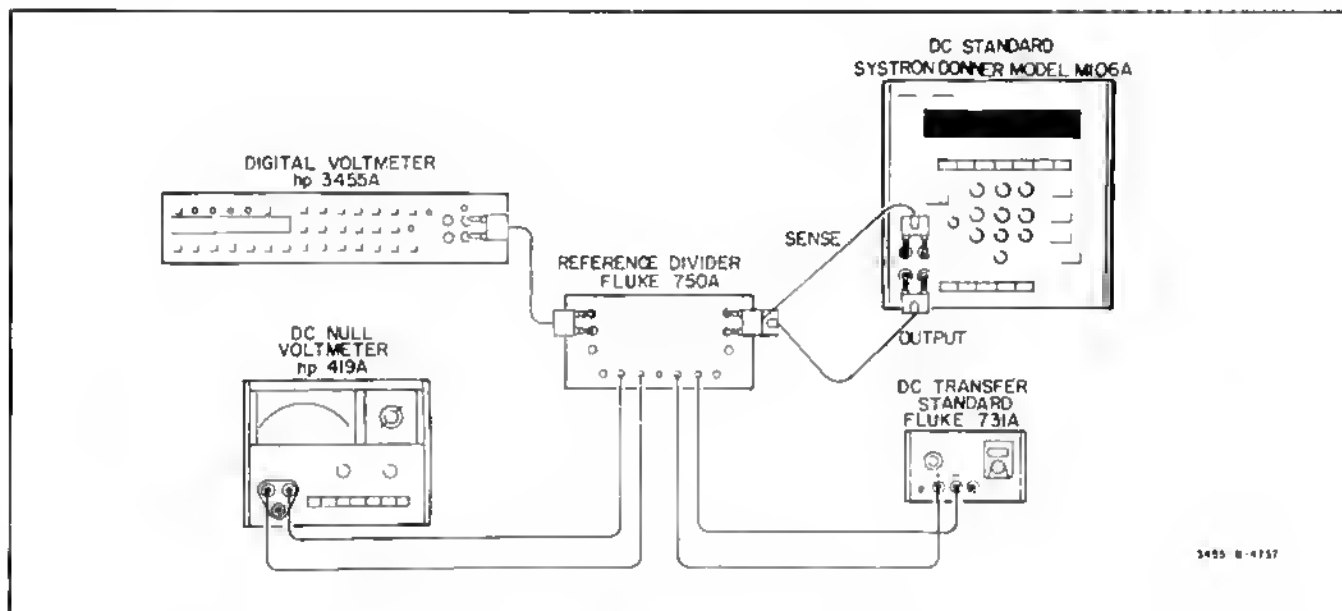

Figure 4-4. DC Accuracy Test.
j. Using short pieces of number 20 AWG (or thinner) insulated solid copper wire, connect the Transfer Standard and DC Null Voltmeter to the Reference Divider as shown in Figure 4-4.
k. Turn off the DC Standard's output. Using 24" (or shorter) shielded cables equipped with banana-plug connectors, connect the DC Standard and the 3455A to the Reference Divider as shown in Figure 4-4.